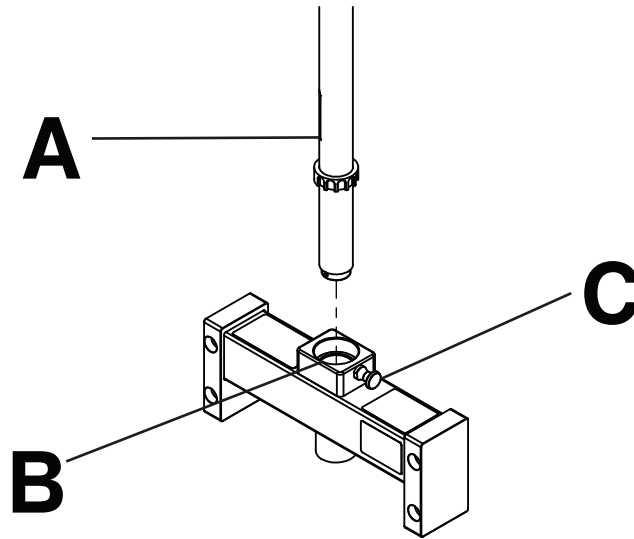

Figure 25 – Attaching or removing the patient helper
1. Insert the lifting pole (A) into the mounting bracket (B) (Figure 25).
2. Rotate the lifting pole in the mounting bracket until the patient helper knob (C) locks in position (Figure 25).